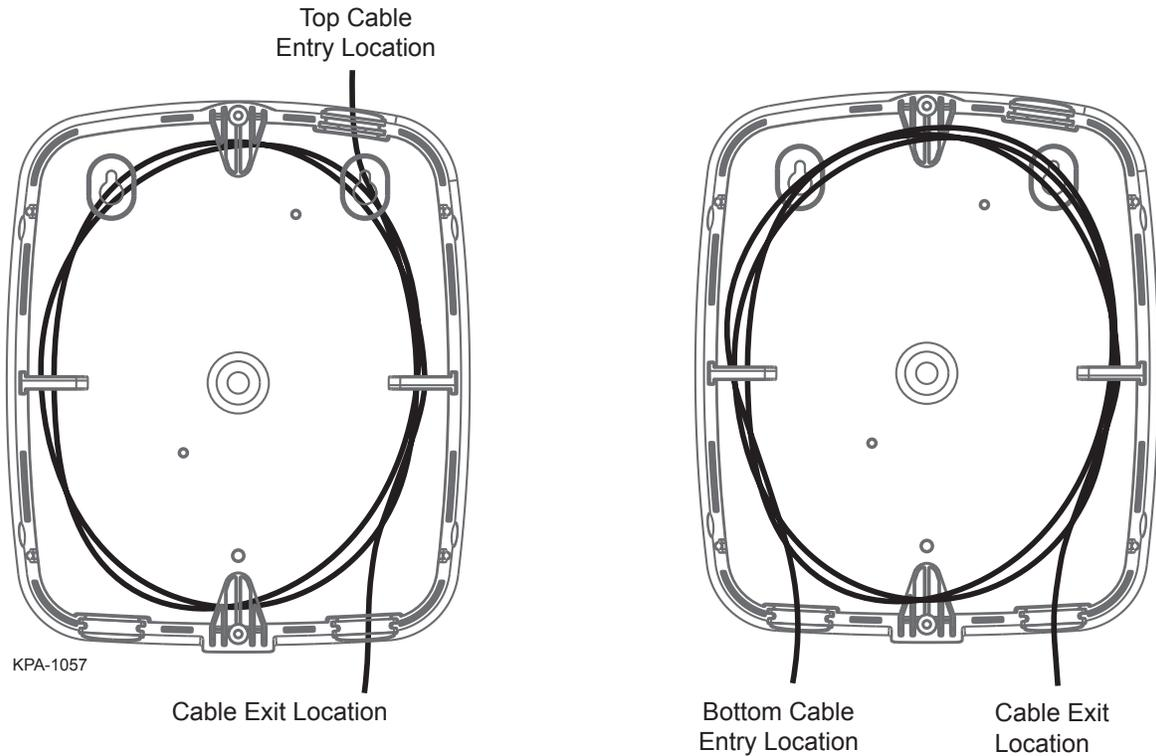

Figure 2
- Step 2:** Route the cable in the tray in a clockwise direction (Figure 2). The drop cable must exit the slack storage device from the lower right corner.